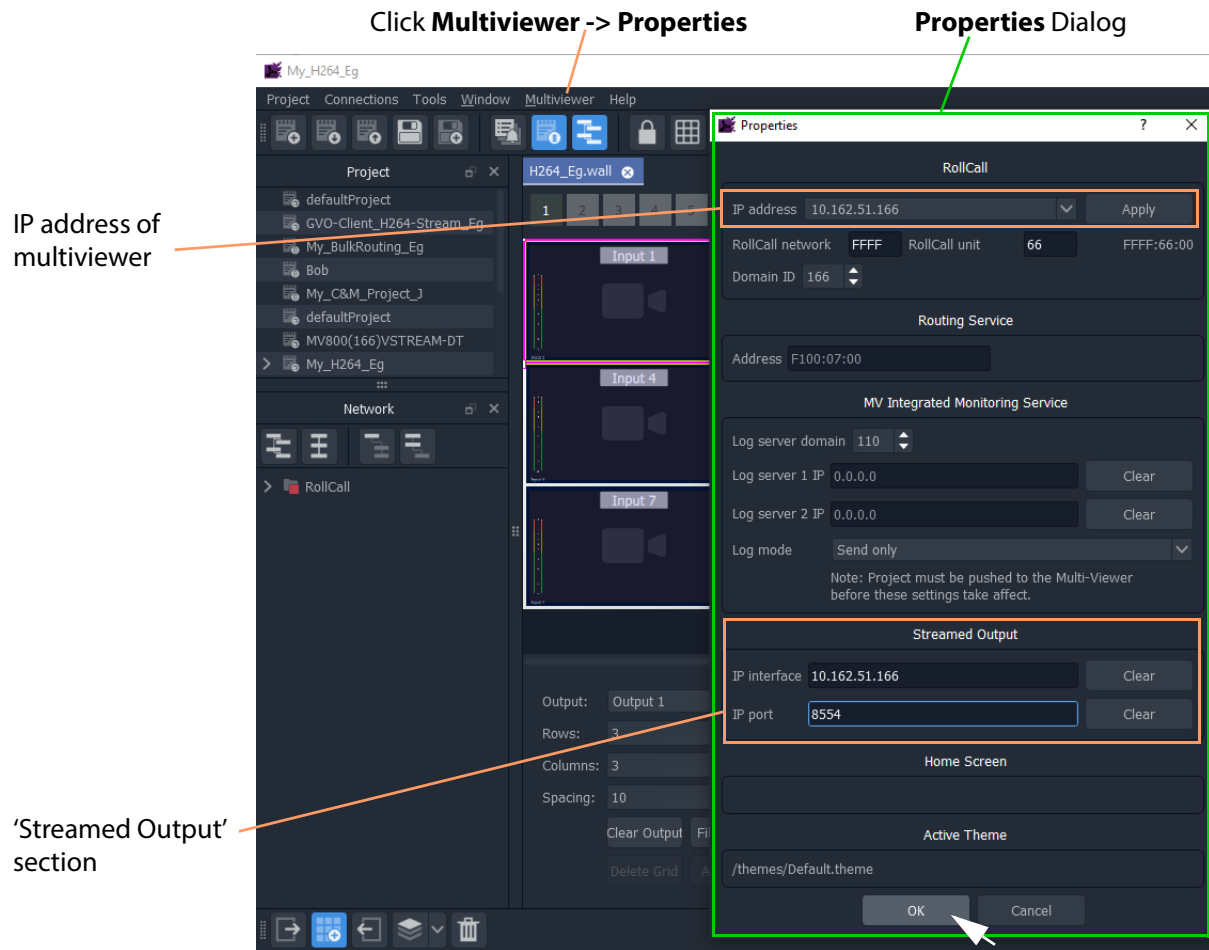

Fig. 4-15: Properties Dialog
The **Properties** dialog is shown. See Figure 4-15.
- 15 In the 'Streamed Output' section of the **Properties** dialog (see Figure 4-15):